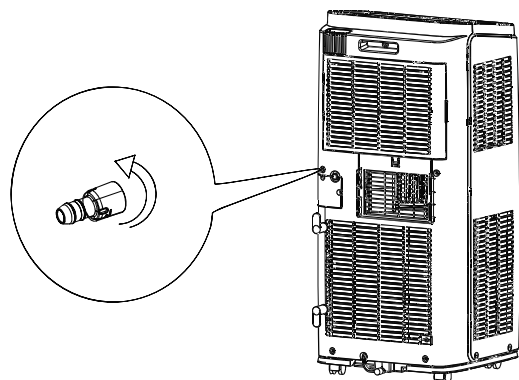

Fig.8
- (2) Screw the drain connector to (included in the package) the spout by turning clockwise.(As show in Fig.8)